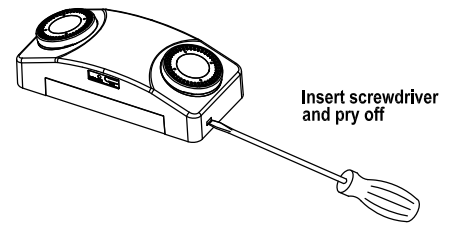

Fig 1
1. Use flat blade screwdriver insert the two slots and pry off then remove front cover from back plate (see Fig 1).